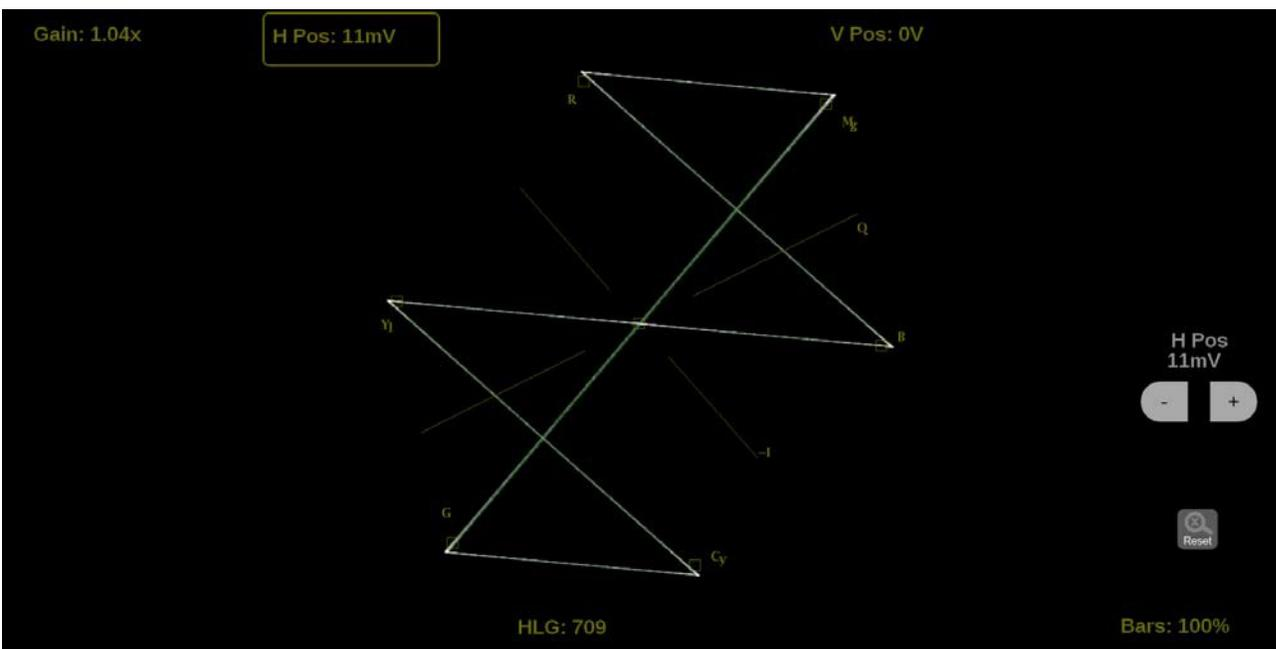

Figure 97: Vector on-screen tools – horizontal position
1. Select the **H Pos** button to allow adjustment of the horizontal trace. (See Figure 97.)